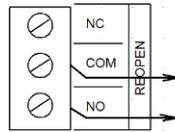

Figure 2 - Reopen Contact Connection
- The REOPEN relay contacts should be connected to the controller as shown in Figure 2 - Reopen Contact Connection
- The REOPEN relay contacts should be connected to the controller as shown in Figure 2 - Reopen Contact Connection.